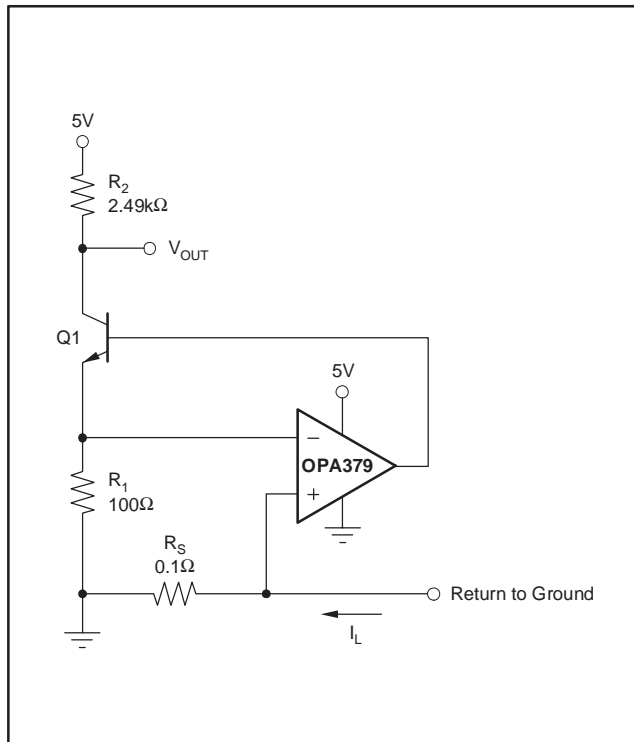

Figure 5. Low-Side Current Monitor
The micropower OPA379 is well suited for current monitoring circuits in applications such as a voltage regulator with fold-back current limiting, or a high-current power supply with crowbar protection. Figure 5 shows the OPA379 monitoring the current in a power-supply return path using a 0.1Ω shunt resistor. The NPN transistor, Q1 (2N2222 or equivalent) is used to generate equal voltages at the inverting and noninverting inputs. Therefore, the voltage drops across R_1 and R_S are equal, and the current flowing through Q1 is directly proportional to the current flowing through R_S . As the load current increases, the current through Q1 increases, the voltage drop across R_2 increases, and this decreases the output voltage, V_{OUT} , as shown in Equation (5):